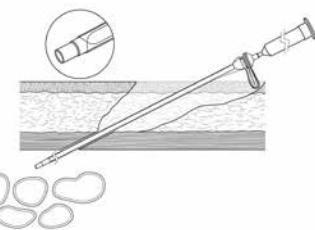

Figure 13
3. Examine peritoneum to find optimal location for catheter. Note any adhesions or abdominal characteristics that may impede proper catheter placement. (Figure 13).